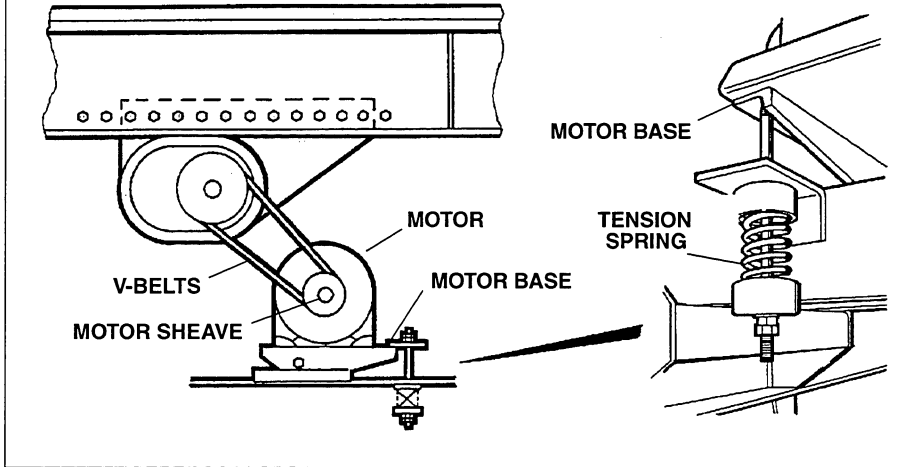

Figure 3-5. Adjusting Belt Tension (Electric Motor Drive)
6. On feeders with electric motor drive, install motor base and electric motor. Install V-belts and tighten tension spring until belts are snug in sheave grooves. See Figure 3-5.